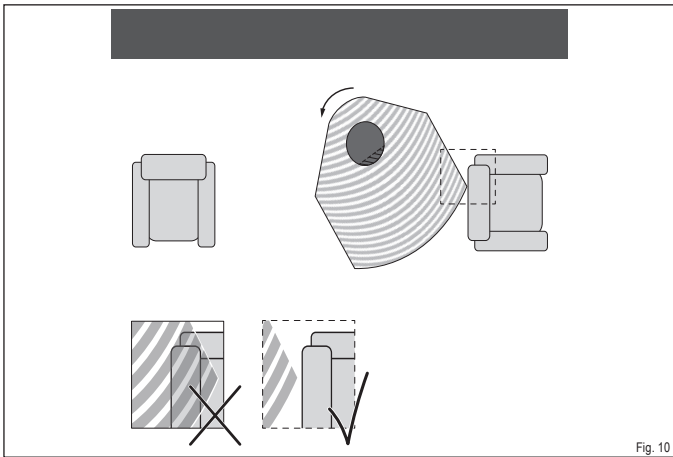
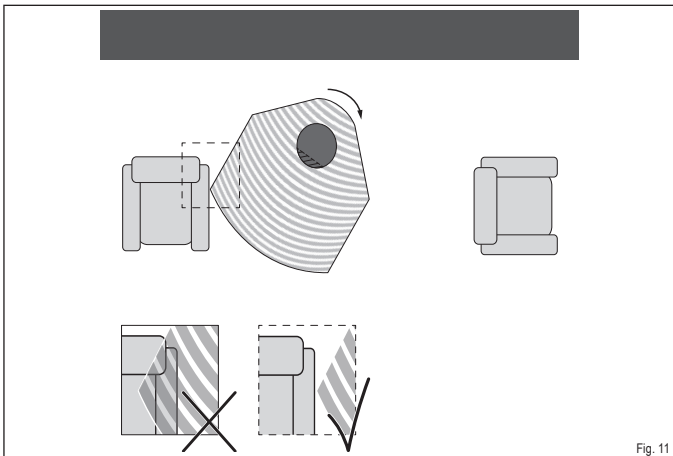

Fig. 10
Fig. 11
- ▶ Flammable materials, e.g. furniture, must not be located within the radiation range of the stove at the set radiation area (Fig. 10 and Fig. 11).